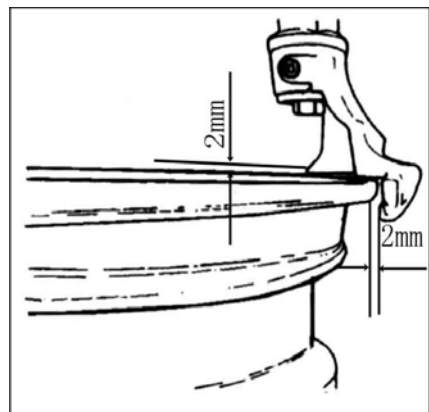
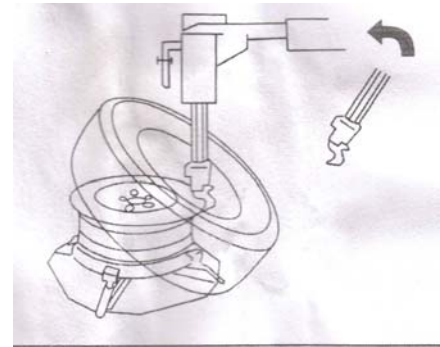

Fig 20
Fig 24
4.1.3 Move the hexangular shaft to the working position to make the demount tool close to the rim of the wheel. The cylindrical roller in the demount tool will contact with the external rim of the rim and the bottom of the demount tool will contact with the surface of the rim. Press the lock handle press button (fig2-2) to lock horizontal arm and hexangular shaft and the hexangular shaft will automatically move upwards. The quadric shaft will automatically backward a little to make the demount tool detached from the rim of the rim to avoid the damage on the rim. (fig20) .
4.2.2 Spread the lubrication liquid or soap liquid around the lip. Tilt the tire against the rim and keep the front end upwards. Press down the column tilt pedal (fig2-10) to make the column return to the original position. Move the demount head to firmly contacted rim(fig20). Position the left of the lip above the tail of the demount tool and the right under the hump of the demount tool. See FIG 24.